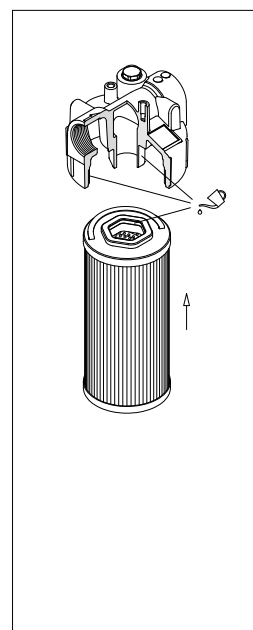

fig. 12
- (Fig. 12) Lubricate with the operating fluid the filter element seal, the housing tap and cavity, then fit the filter element on the tap. Pay attention not to damage the Hex-ring seal